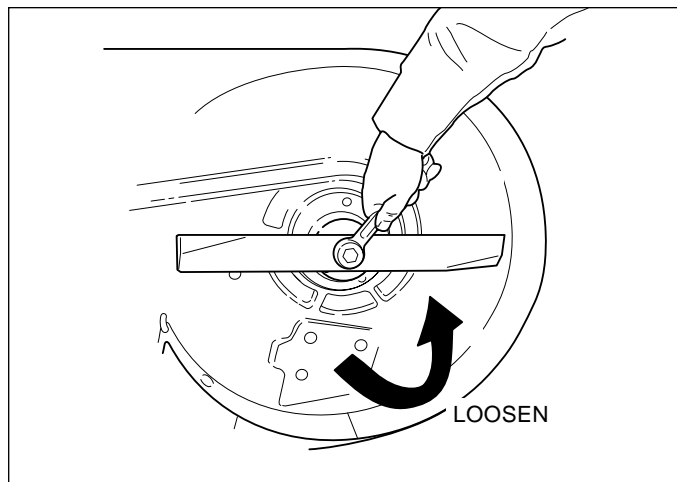

Figure 13. Removing the Blade
4. To remove blade for sharpening, use two (2) 15/16" wrenches to remove the nut from the top of the blade bolt. (Figure 13).